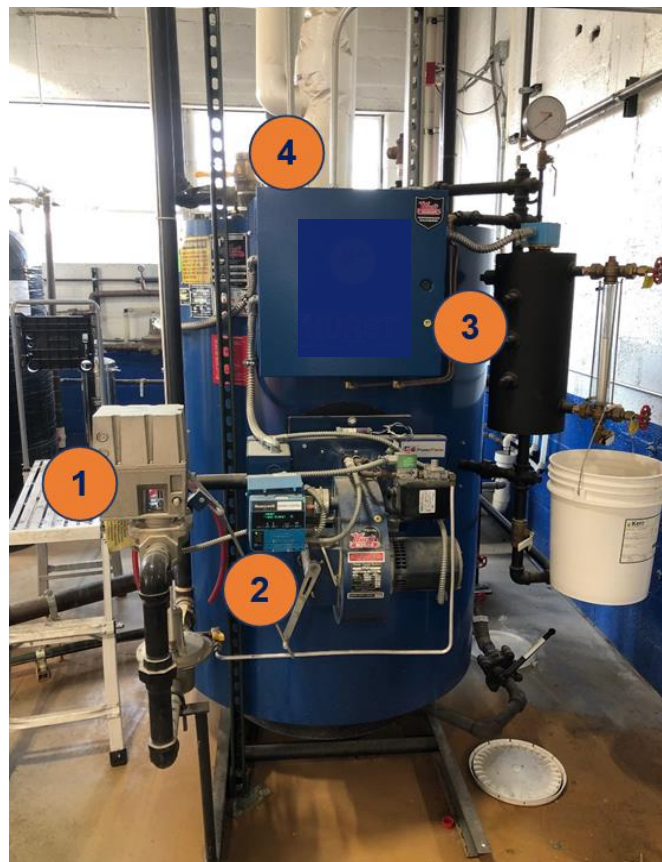

Figure 3: Typical safety equipment installed on a steam boiler, irrespective of size.
1. **Steam Boiler Safety Equipment:** Steam boilers are equipped with safety devices to protect the equipment and the equipment operators. The following safety devices are indicated in Figure 3: